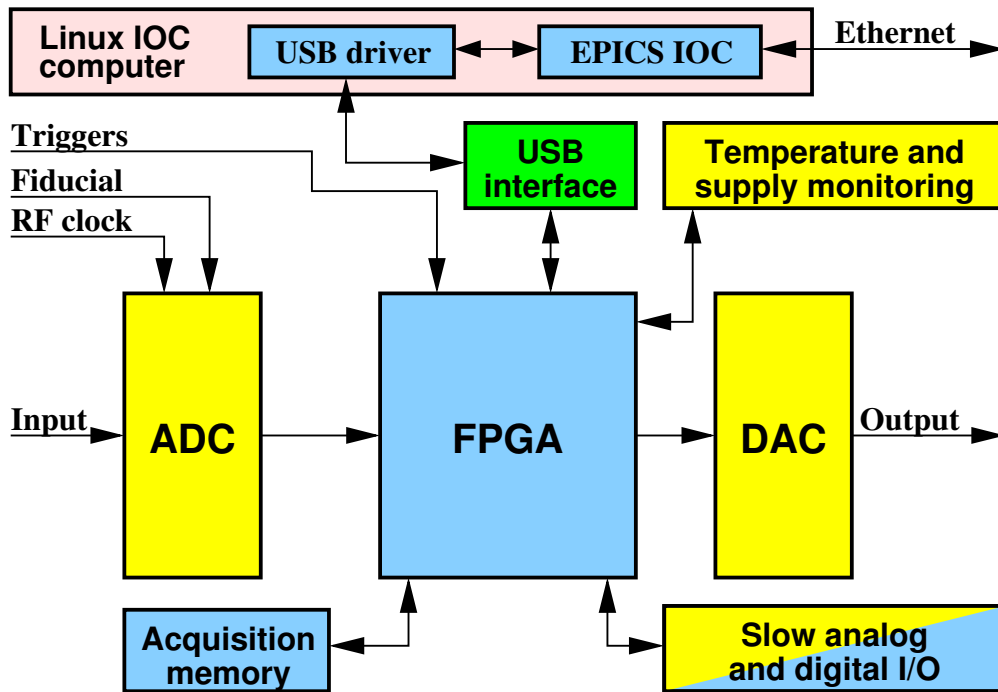

Figure 1: iGp12-328F block diagram
A top-level block diagram of the iGp12-328F system is shown in Figure 1. The main signal processing chain consists of a high-speed 12-bit **analog-to-digital converter (ADC)**, a **field programmable gate array (FPGA)**, and a high-speed 12-bit **DAC**, all driven by the **radio frequency (RF)** clock. In addition to performing real-time control computations, the **FPGA** interfaces to a number of on-board devices, such as high-speed data acquisition memory (**static random access memory (SRAM)**), low-speed analog and digital **input/output (I/O)**, as well as temperature and supply voltage monitors. In turn, the **FPGA** uses an internal **universal serial bus (USB)** connection to communicate to an embedded **input-output controller (IOC)** computer housed in the same chassis. The **IOC** runs the **Linux** operating system and is connected to the overall control system via the **Ethernet**.